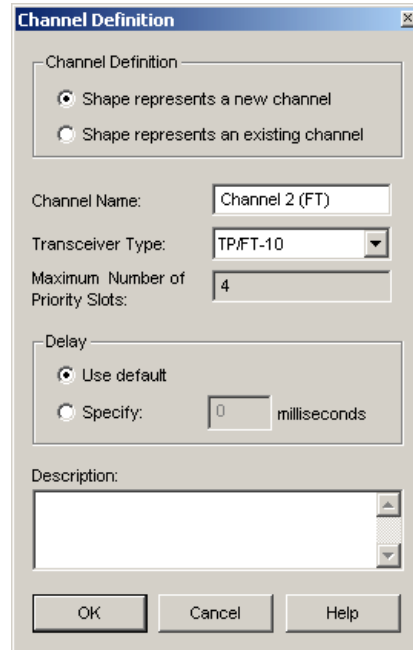

Figure 9: Channel definition dialog
2. Now for each port of the L-Switch a dialog appears which asks for a channel definition (see Figure 9). You can either select an already existing channel or create a new channel with the required transceiver type.